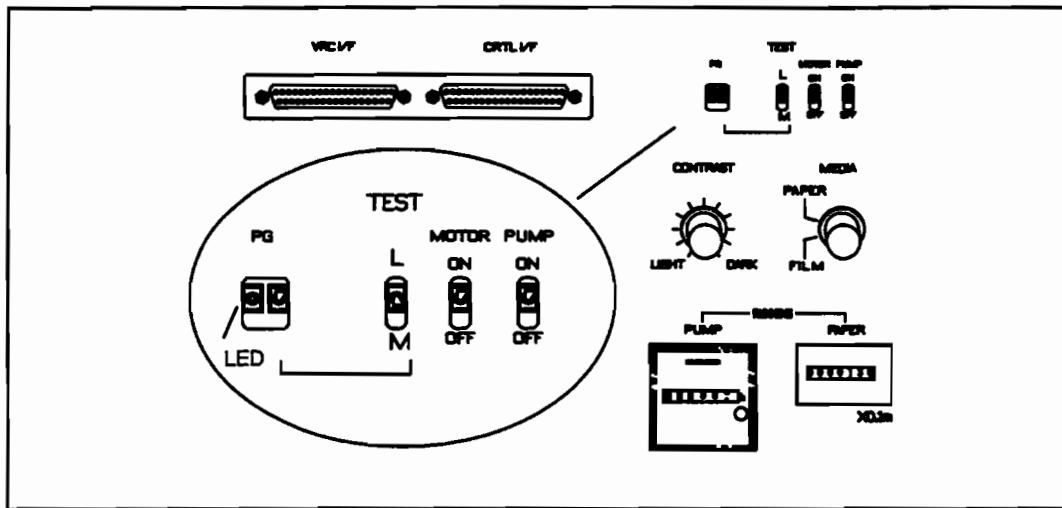

Figure 3-46. Test Panel
2. Ensure that the two switches below the label, Motor Pump, on the the test panel are in the ON (I) position. The test panel is illustrated in Figure 3-46.